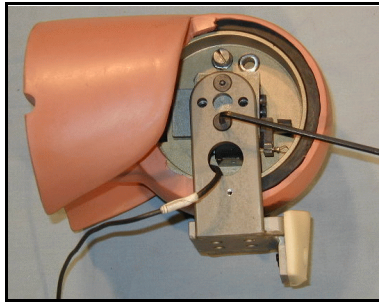

Figure 3.41 - Attach Clevis
4. Attach the knee clevis to the slider mechanism using two #10-32 x 3/8" FHSCS on each side of the clevis. These bolts are placed in the vertical, countersunk holes as shown in **Figure 3.41**.